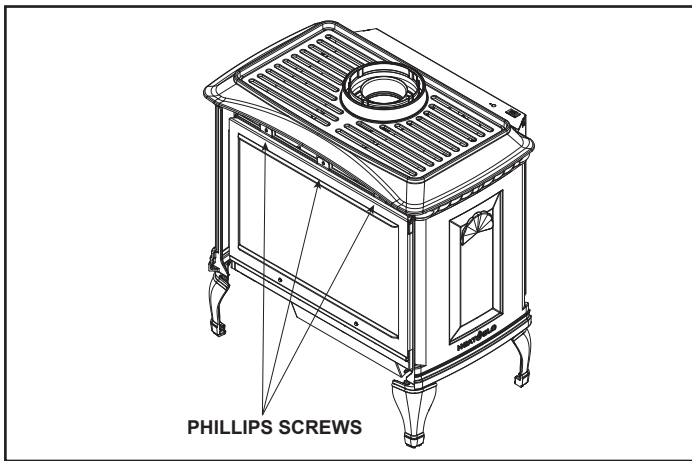

Figure 6.11 - Remove Glass Frame
- Using a #2 Phillips screwdriver, remove the three screws on the front glass assembly and take the glass assembly off the appliance. See Figure 6.11.